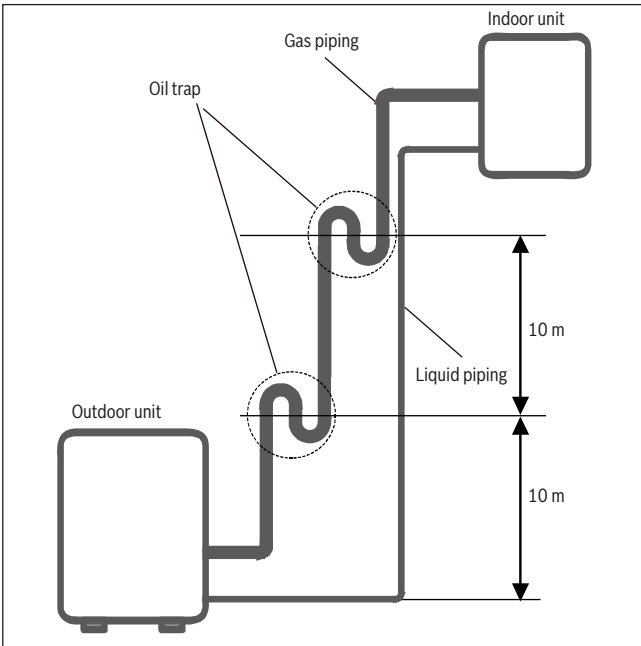

Fig. 26.
- An oil trap should be installed every 10 m of vertical suction line riser. (See Fig. 26)